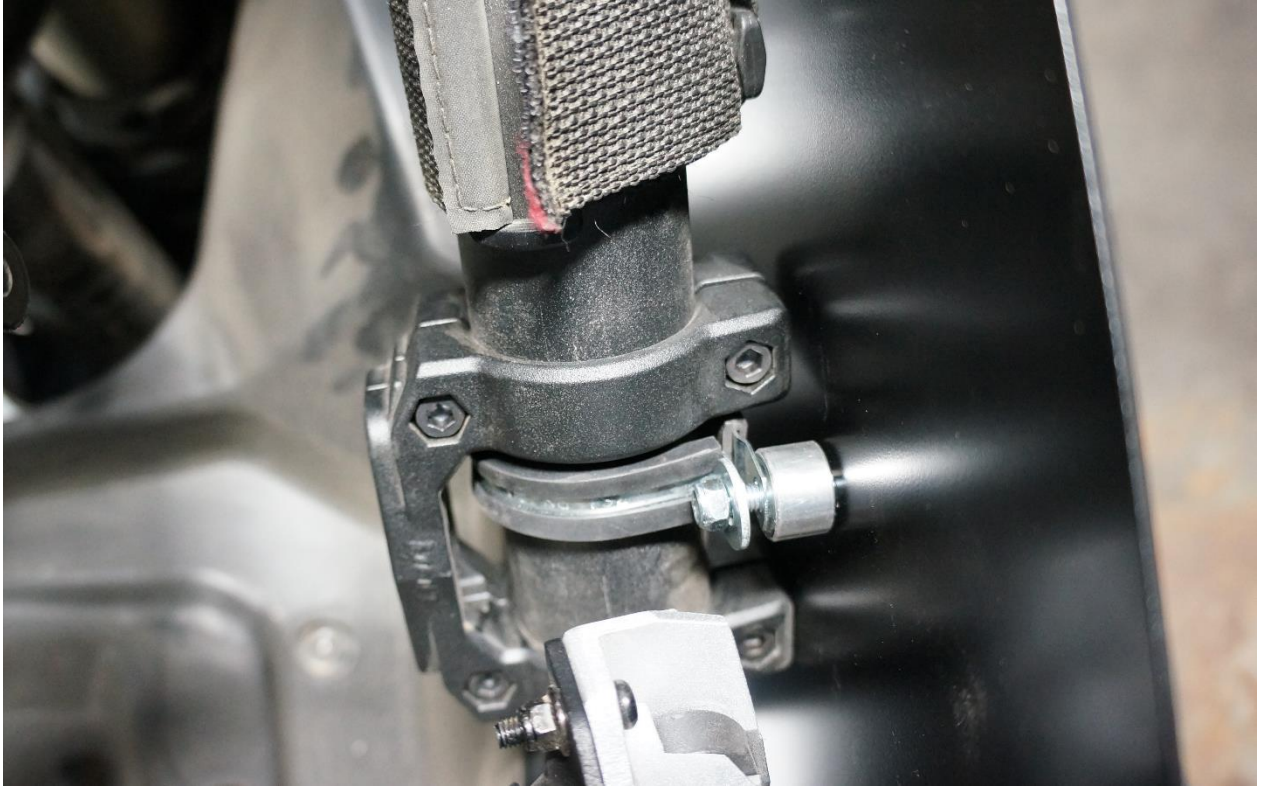

Figure 3-1
3. Attach roll cage clamp to roll cage and bolt up to number plate by inserting the M6 bolt and M6 small washer through the number plate, through the billet spacer, through the clamp and attach using a M6 large washer and M6 nylon locknut. Torque to 18 lb. in.(fig 3-1)